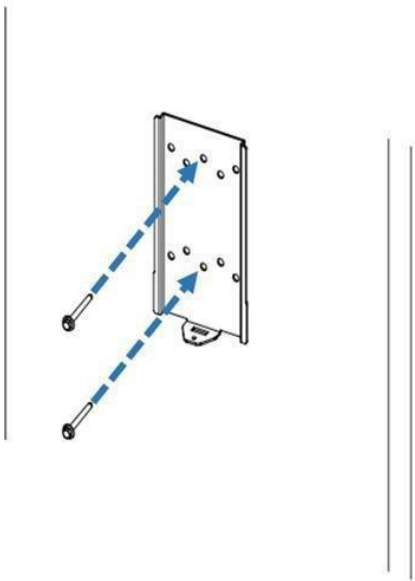

Figure 2-3 Installing the mounting bracket
3. The mounting bracket has ten screw holes to support attachment to multiple mounting surfaces. For most installation, including attached the charging station to a single wall stud, only two screws will be used to attach the mounting bracket. In this case, the screws should pass (install) through the middle two vertical screw holes of the mounting bracket as shown in Figures 2-3 & 2-4.